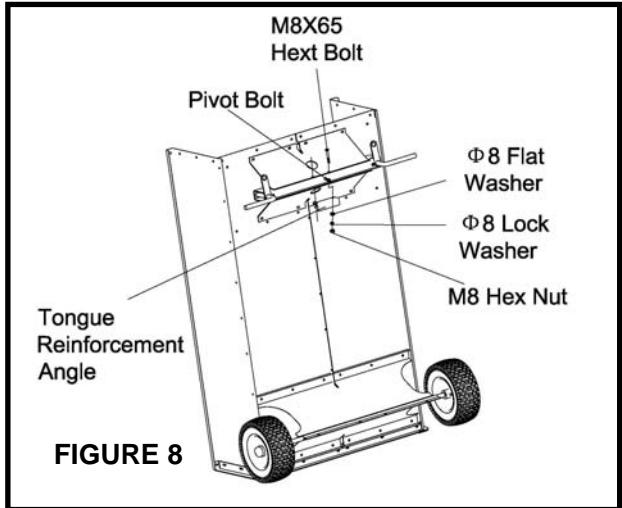

FIGURE 8
20. Assemble the tongue reinforcement angle to the back side of the axle supports as shown in Figure 8. Use two M8X65 hex bolts, Ø8 lock washer, Ø8 Flat Washer and M8 hex nuts. Don't tighten.
21. Make sure the center bolt (pivot bolt) is inserted as far as possible through the axle channels and then tighten the four bolts assembled in **Figure 8**,which fasten the front axle supports to the cart bed.